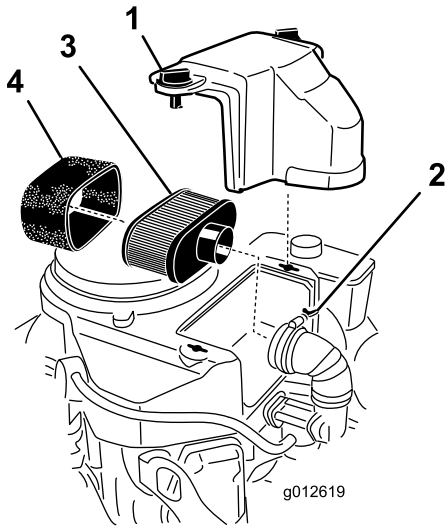

Figure 38
3. Clean around the air cleaner to prevent dirt from getting into the engine and causing damage (Figure 38).
4. Loosen the cover knobs and remove the air-cleaner cover (Figure 38).
5. Loosen the hose clamp and remove the air-cleaner assembly (Figure 38).
6. Carefully pull the foam element off the paper element (Figure 38).
1. Clean the paper element by tapping it gently to remove dust. If it is very dirty, replace the paper element (Figure 38).
1. Carefully slide the foam element onto the paper element (Figure 38).
2. Place the air-cleaner assembly onto the air-cleaner base or hose and secure it (Figure 38).
3. Place the air-cleaner cover into position and tighten the cover knobs (Figure 38).